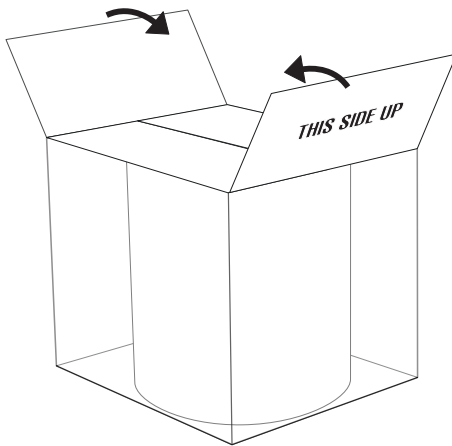

Figure 5
7. Fold flaps on top of carton so that they meet. "THIS SIDE UP" must be visible on the outside of the carton. (See Figure 5)